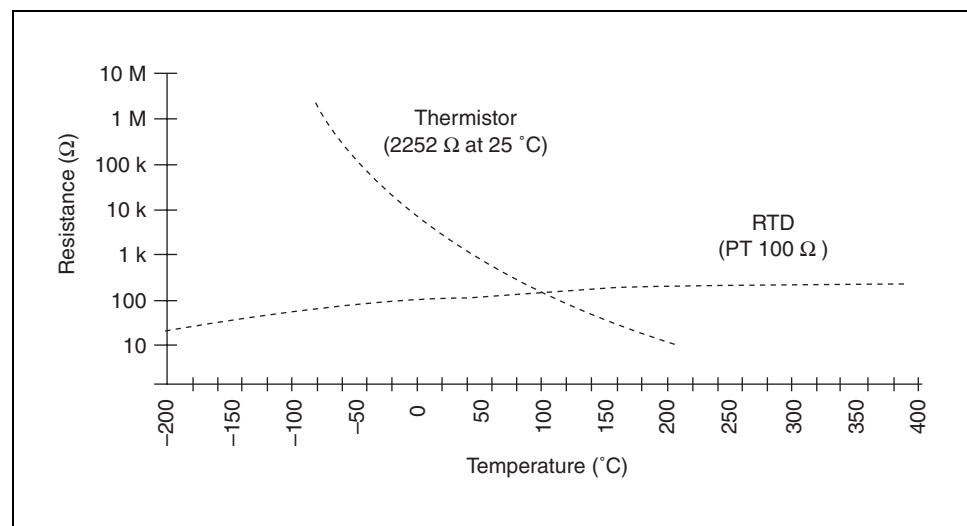

Figure 2-1. Resistance-Temperature Curve of a Thermistor
- The resistance varies over several decades; refer to Figure 2-1.